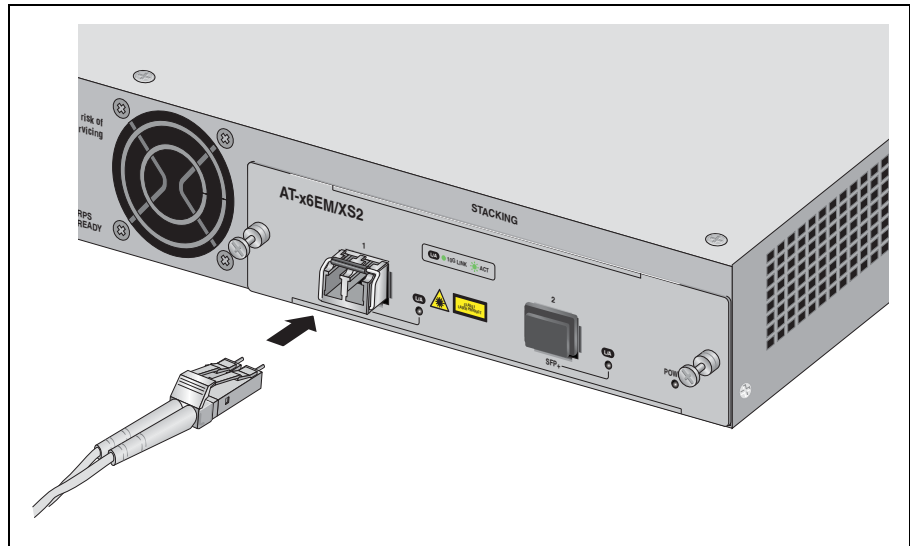

Figure 51. Connecting a Fiber Optic Cable to the SFP+ Transceiver
7. Connect a cable to the SFP+ transceiver, as shown in Figure 51. For SFP+ optical and cabling specifications, consult the documentation shipped with the module.